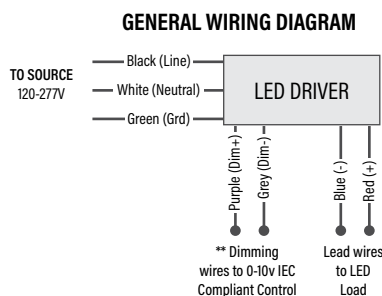

Fig. 1
1. Locate drill holes for mounting brackets shown in Fig. 1. Use hardware found in hardware kit. Mount bracket to surface.